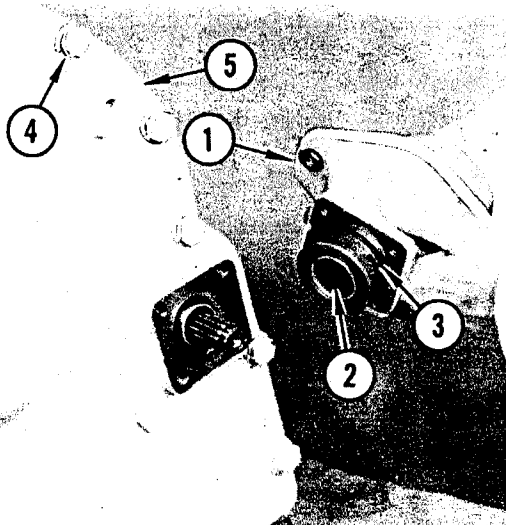
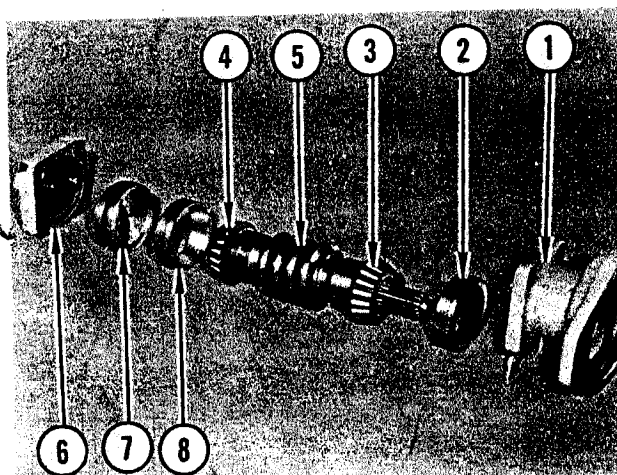

FIGURE 5. REMOVE MOTOR ADAPTER
FIGURE 6. BLADE LIFT FIRST REDUCTION GROUP
Refer to Figure 5. Remove four cap-screws and lockwashers retaining hydraulic motor adapter (1) to gear housing cover. Remove adapter. Remove bearing cup (2) from bore of adapter. Remove "O" ring (3) from hub of adapter. Remove fifteen cap-screws and lockwashers (4) retaining cover (5) to gear housing. Remove cover and gasket.
Refer to Figure 6 and follow the numerical sequence for disassembly of the first reduction group. Items (1) and (2) were previously removed under Figure 5.